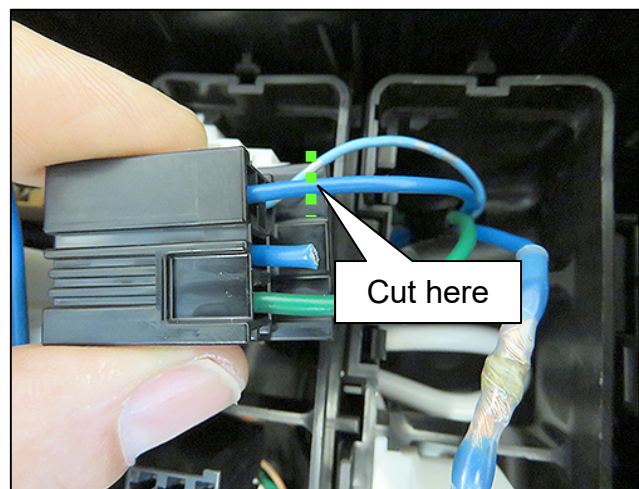

Figure 18
19. Cut the second blue wire of the old E54 harness connector as shown in Figure 18.